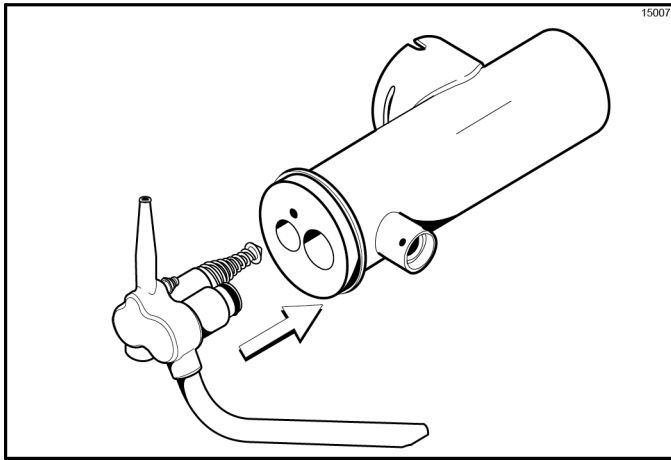

Figure 6-25
9. Insert the assembled mix inlet tube into the holes in the base of the liquid valve body. (See Figure 6-25.)